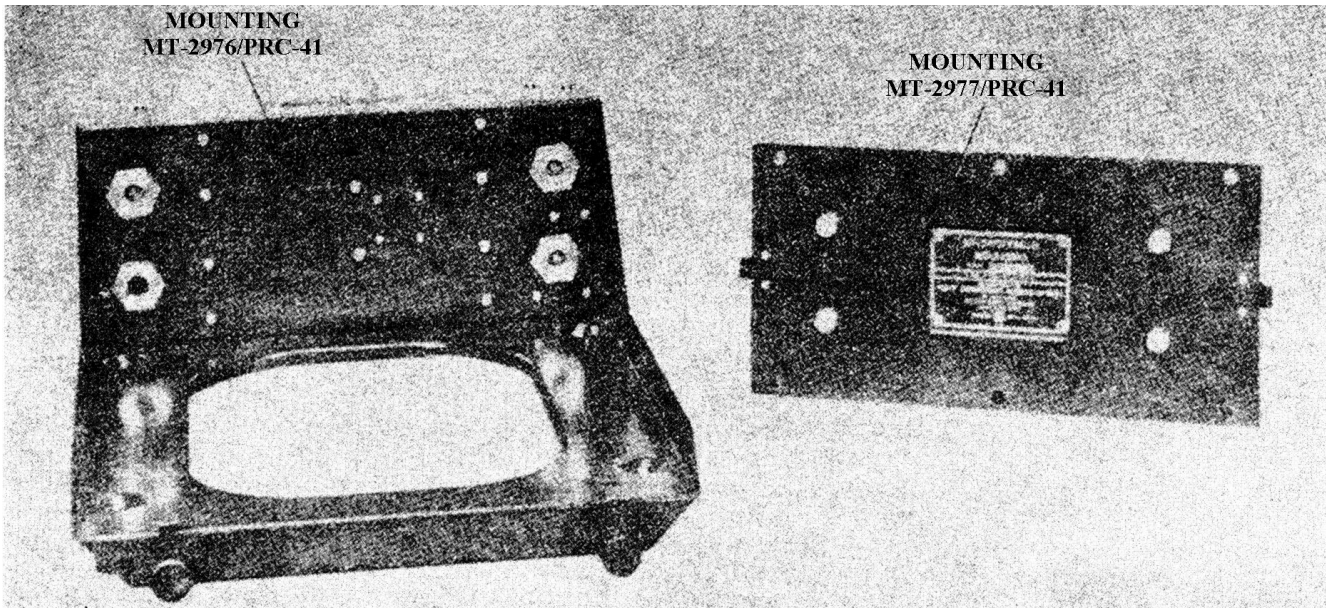

Figure 1-8. Mounting MT-2976/PRC-41 and MT-2977/PRC-41, Oblique Views
(3) MOUNTINGS MT-2976/PRC-41 AND MT-2977/ PRC-41. - Refer to figure 1-8. Mounting MT-2976/PRC-41 is used to mount Radio Receiver- RT-695/PRC-41. This is normally used for a vehicular installation. Power Electric Cable Assembly CX-8686/PRC-41 may be connected to the input connector at the rear of the MT-2976/PRC-41. Mounting MT-2976/PRC-41 contains circuitry to prevent voltage polarity reversal from damaging the RT-695/PRC-41 and filter circuits for input filtering of the primary power voltage. Primary power is taken from the input connector at the rear of the MT-2976/ PRC-41, fed through the mounting circuitry, and made available to the connectors at the front of the rear bracket of the MT-2976/PRC-41. These connectors mate with those at the rear of Receiver-Transmitter Case CY-3884/PRC-41. Two take-up fasteners are located at the front of the MT-2976/PRC-41 which clamp over the protection handles on the front panel of the RT-695/PRC-41 and hold the contacts at the rear of the CY-3884/PRC-41 in contact with the contacts at the front of the rear bracket of the MT-2976/PRC-41. Mounting MT-2977/PRC-41 is used normally for fixed station installation for mounting Power Supply PF-3700/PRC-41.